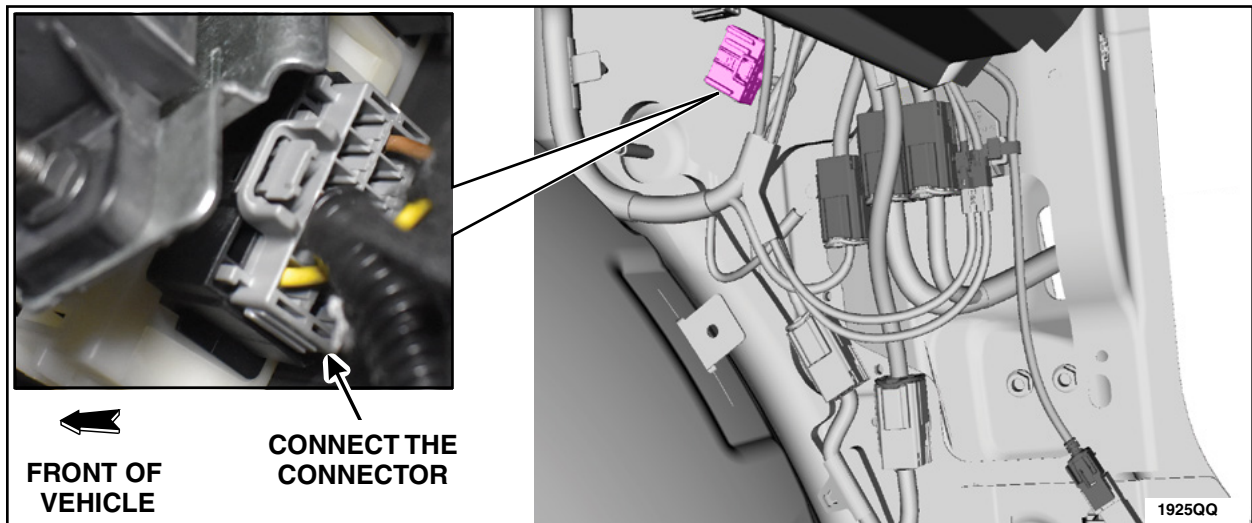

FIGURE 31
33. Connect the C2489C connector. See Figure 31.